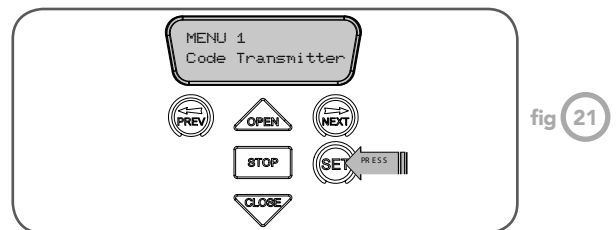

fig 21
1. Press NEXT to navigate to Menu 1 (Fig. 21).